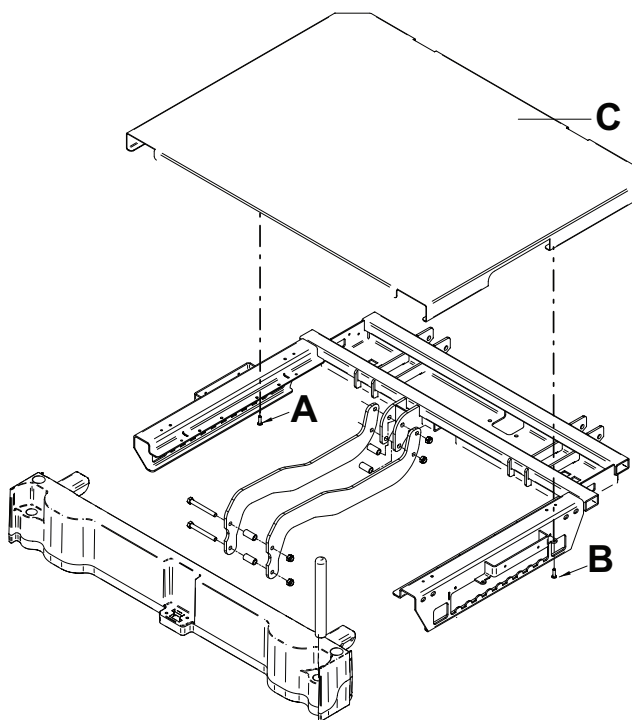

Figure 72 – Electrical cover
4. Using a #2 Phillips short screwdriver, remove the two screws (A and B) that secure the electrical cover (C) (Figure 72). Remove the cover. Save the screws.